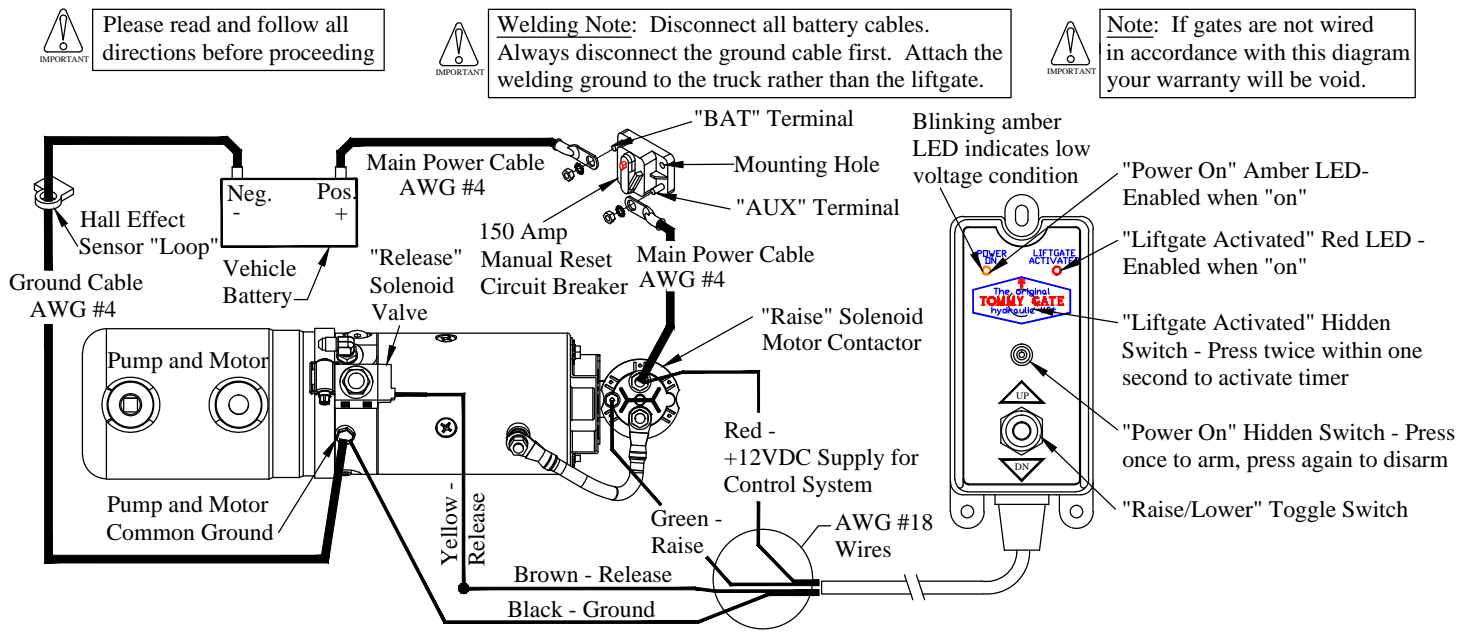

Figure 17: Wiring diagram.
2. **Push** the hidden "Power On" switch (Figure 17). The amber "Power On" LED will illuminate.
13. Connect the circuit breaker and battery as outlined in the *Tommy Gate Recommended Electrical Wiring Guidelines* and wiring diagram (Figure 17).